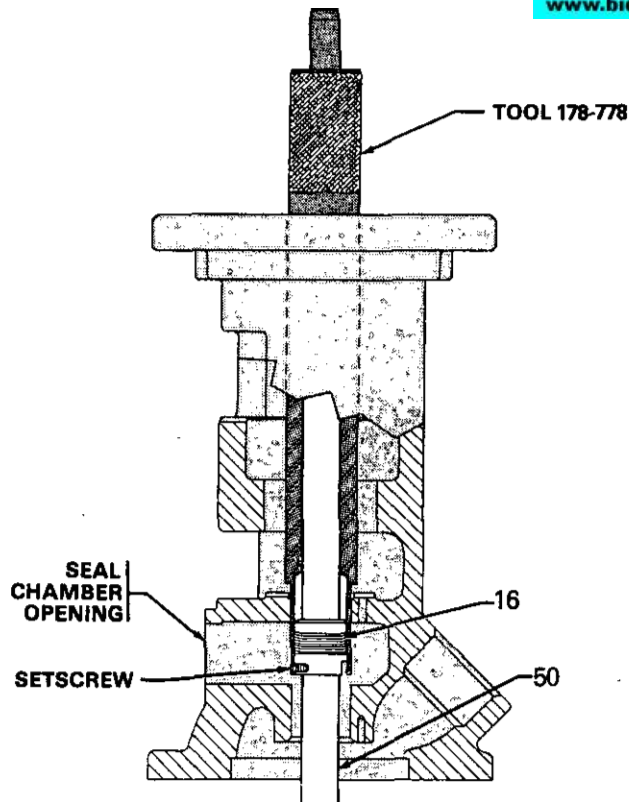

Fig 6
14. Slide the new face seal (B) over the nipped end of tool 178-778 and leave it there for a couple of minutes to pre-form the O-ring in the seal. Refer to Fig 6.
16. Insert the face seal into the open end of tool 178-778 as shown in Fig 6. Use a hex key wrench to back out the setscrews just enough to engage them in the holes of the tool.
17. Use the Chevron** lubricating grease to lubricate the O-ring inside the face seal (Z). Slide tool 178-778, with the seal installed in it, over the pump shaft, pushing it down until the tool bottoms. Working through the seal chamber opening, use a hex key wrench to turn in the setscrews just enough to free and remove the tool. See Fig 6.